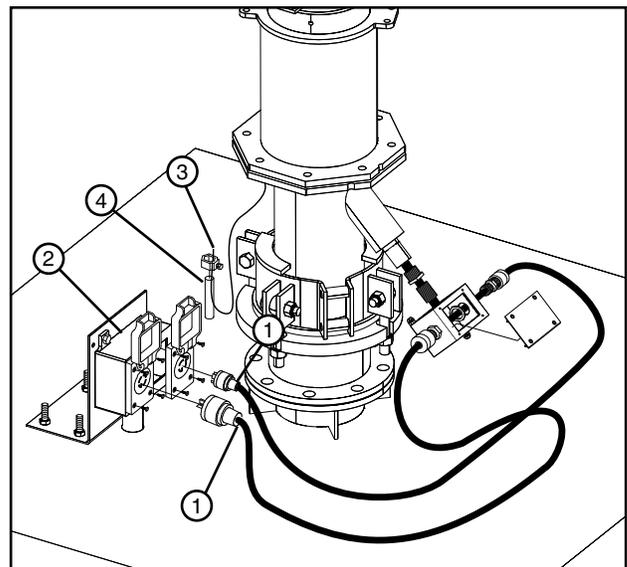

Figure 33-3 1. Electric Cord 2. Power Receptacle 3. Ground Wire 4. Ground Rod
11. At the pivot pad, make sure the power disconnect is locked in the OFF position. Then unplug the electric cords from the power receptacles. See figure 33-3.
13. Disconnect the pivot ground wire from the pivot pad ground rod. The pivot ground wire MUST be reattached to the ground rod at the next pivot pad when towing is complete. See figure 33-3.